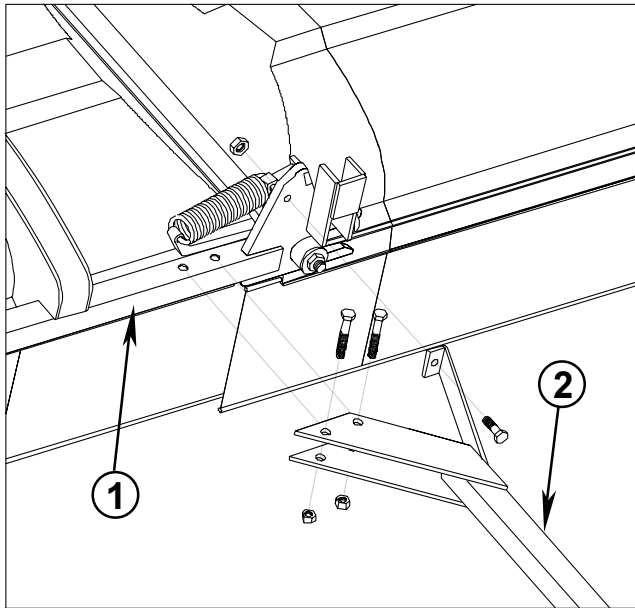

FIG. 7a
1. Assemble Right and Left Boom Mount(s) onto the Center Boom as per FIG. 7a using the (4) 1/2" x 3" / (2) 3/8" x 1-1/4" hex hd. cap screws and lock nuts. Do not tighten.